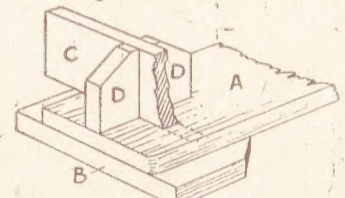

Fig. 5—Support brackets
their outer corners removed, as seen in Fig. 3 and in the detail Fig. 5. This now completes the seat end of the car, with the exception of a cushion to go on top of piece (B).